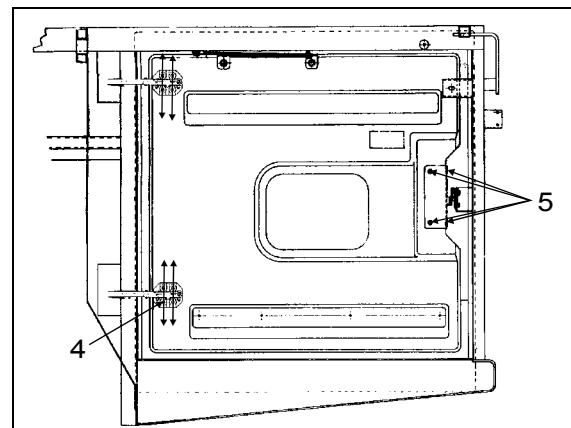

FIGURE 61: ENGINE COMPARTMENT R.H. DOOR 18197
8. Loosen screws (4, Fig. 61).